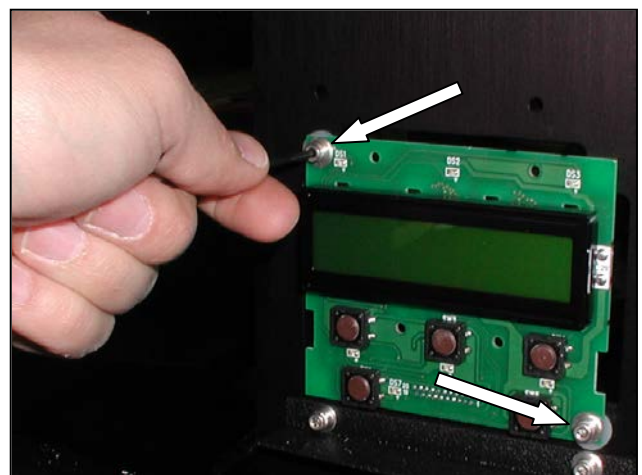

Figure 3-138. Remove Display Screws
6. Unscrew the two screws holding the LCD Module to the Front Plate (Figure 3-138).